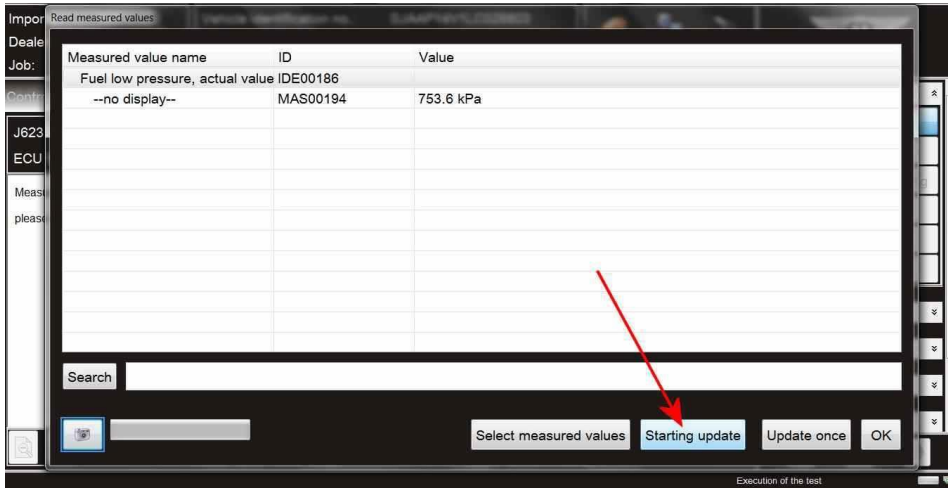

Figure 3
2) Referring to Figure 3 - Select Starting update